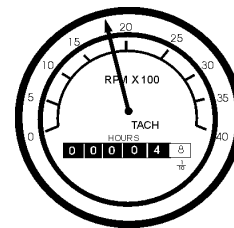

Figure 28. Engine Tachometer
17. The tachometer (Figure 28) will indicate the speed of the engine when the generator is operating. Under normal operating conditions this speed is approximately 1800 RPM's.